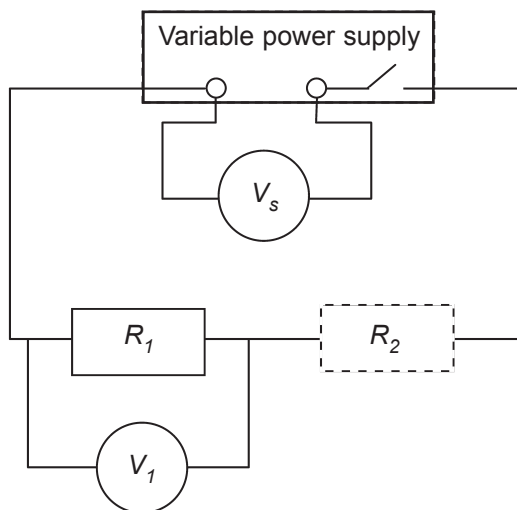

Fig. 2.1
- 2 You are provided with the circuit shown in **Fig. 2.1**. The value of resistance R_1 is to be determined by taking measurements of the potential difference across the terminals of the variable power supply and across resistor R_1 for different values of R_2 .
(b) (i) Insert resistor R_{2a} into the circuit at position R_2 as shown in **Fig. 2.1**. Adjust the variable power supply so that V_s has a value between 4 V and 5 V and record the values for V_s and V_1 in **Table 2.1**.